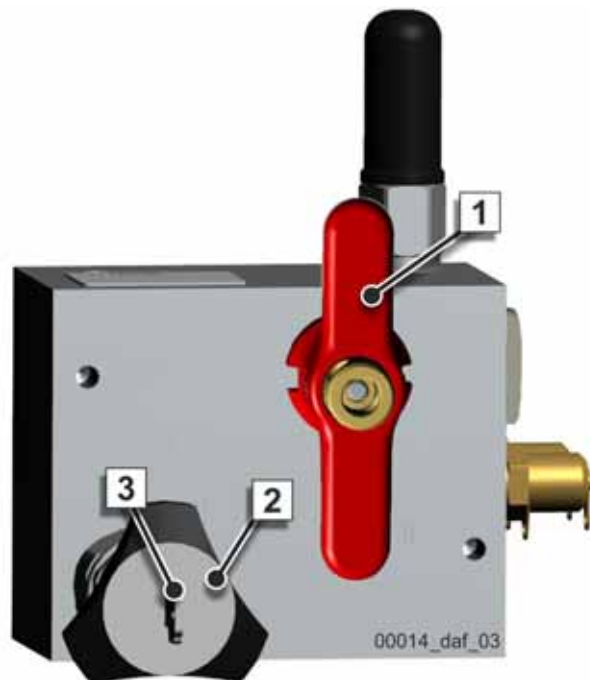

Fig. 505
Caption (Fig. 505)
When delivered, the ball valve (1) (**Fig. 505**) is situated in an upright position (=max. pumping pressure).
8. Now set the new maximum pressure using the hand-wheel (2) (**Fig. 505**).